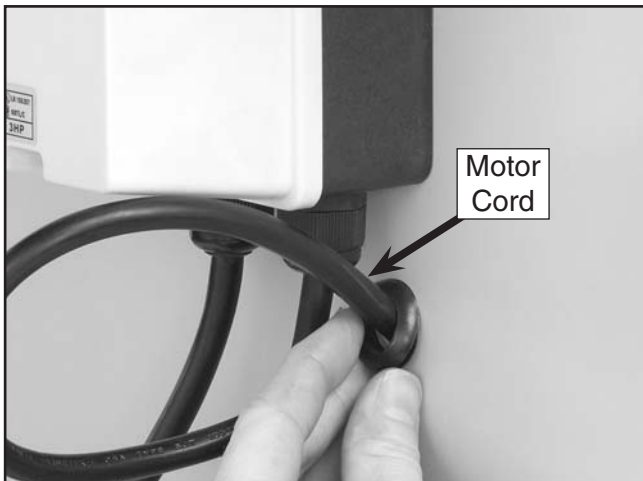

Figure 14. Installing strain relief.
- Make sure there is a little slack in the wire between the switch and the strain relief, then snap fit the strain relief into the opening as shown in **Figure 14**.